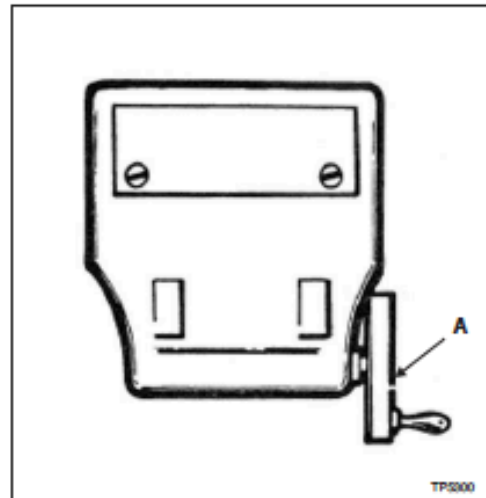

Figure 2.16 - Spindle Speed Change
2. Turn handwheel "A", Figure 2.16, to select required speed.